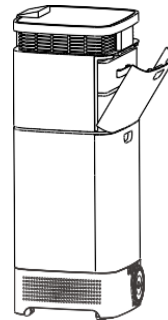

Figure 4
10.7 After adding water, push the water tank into the machine, cover the back plate and touch the panel Humidification icon to turn on humidification function (Figure 4).